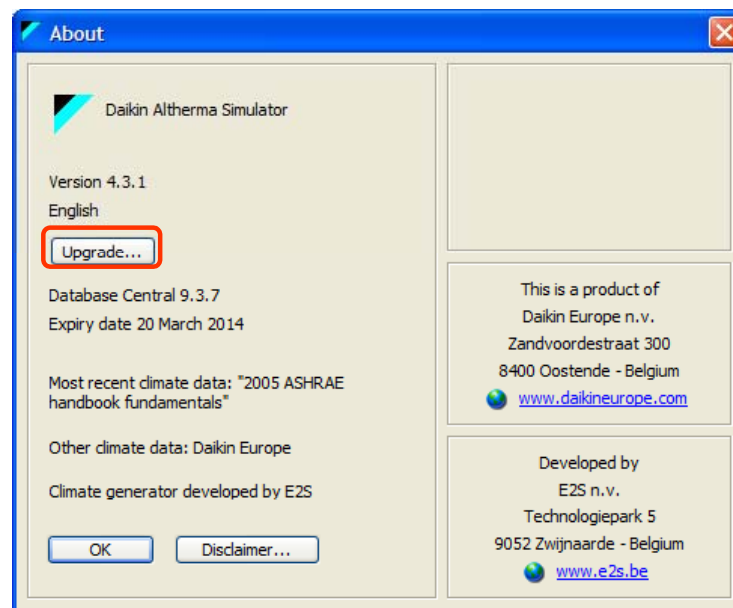

Figure 63: The about box with upgrade command button
In case this screen does not appear, you first have to click the **"About"** command button (see Figure 14), which brings up a screen as shown in Figure 63:
2. The program version. In Figure 63, the Daikin Altherma program version is 3.8.0.
3. The program language. Daikin Altherma comes in different language versions (English, French, ...etc). In Figure 63, the Daikin Altherma language is English.
5. The version number of the central database (8.6.5. in Figure 63).